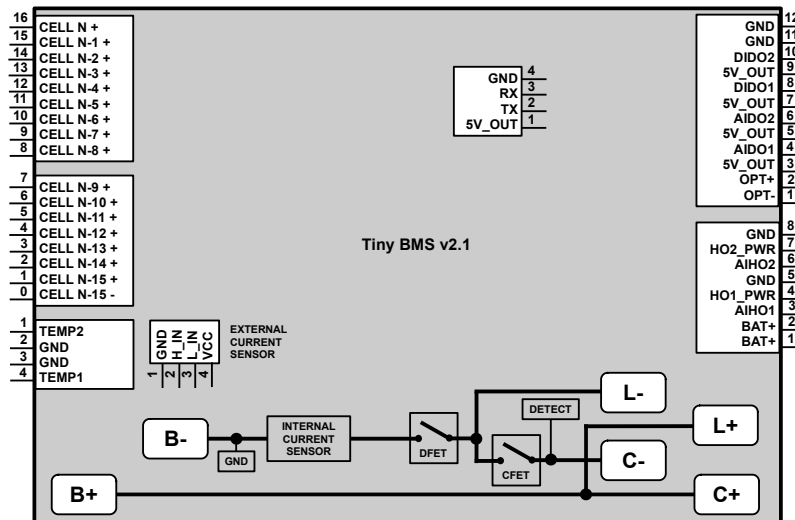
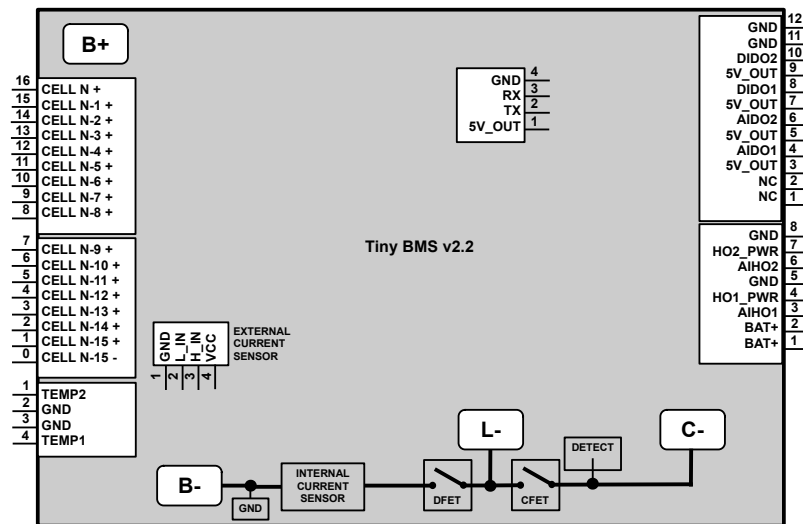

Figure 2.5: Tiny BMS v2.1 onboard connectors pinout
Figure 2.6: Tiny BMS v2.2 onboard connectors pinout
Tiny BMS onboard connectors and internal FET power switch wiring are shown in Figure 2.5. and Figure 2.6. All connectors on the *Tiny BMS* board are compatible for JST PH series 2.0 mm pitch type connector or any other compatible connector.
There is a 9 pin connector ① for uppermost battery pack cells and the 8 pin connector ② for lowermost battery pack cells. Cell count starts from most lowest cell of the battery pack negative terminal (-). In Figure 2.5 and 2.6 cells connector numbering is shown for battery pack made of 16 in series connected cells. If less in series connected cells are needed, the lowest cell connector pins should be skipped and left unconnected. The positive terminal of the highest cell in battery pack must be connected to 16-th pin on the Tiny BMS connector Pin 16 CELL N +. Below is a formula to determine which Tiny BMS cell connector pin should be used to connect cell's positive terminals (+):
Tiny BMS has external analog / digital and hybrid input / output pins, which are multi-purpose and can be used either as inputs or outputs (Figure 2.5 and Figure 2.6 Tiny BMS pinouts). Each pin can be mapped to different BMS features. External BMS I/O pins as inputs can be programmed to act as ignition switch, external charger detection input or speed measurement input from motor or other sensor. The BMS I/O pins as outputs can be programmed to control external load, charger and precharge relays / contactors or another compatible circuitry for switching of high current. These external I/O are divided into three groups: analog I/O (AIDO 1/2), digital I/O (DIDO 1/2) and hybrid I/O (AIHO 1/2). AIDO I/O's can measure analog input voltage from interval: battery minus B- to battery plus B+. If AIDO I/O is configured as output, it can sink up to 250 mA current. DIDO I/O's can tolerate input voltages from interval B- to B+, but logic state voltage levels are same as 3.3 V CMOS (for actual levels refer to Tiny BMS datasheet). DIDO also can sink up to 250 mA current, if configured as output. AIHO I/O's can measure input voltage from interval B- to B+. If configured as output, AIHO I/O can supply up to 250 mA current from AIHO supply pin to AIHO I/O pin. AIHO may be supplied with voltages from interval B- to B+. Because of AIHO supply pin, AIHO output voltage levels depends on supplied voltage on AIHO supply pin. AIHO also can sink up to 250 mA current. Table 2.3 shows which BMS features can be mapped with each BMS external I/O pin. More information